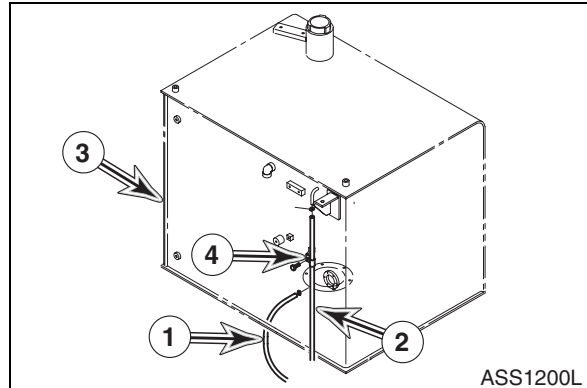

Figure 14
8. Connect as tagged, fuel supply line (1, Figure 14) and fuel return line (2) to fuel tank (3).
9. Install clamp (4, Figure 14) to hold fuel return line (2) to tank (3).